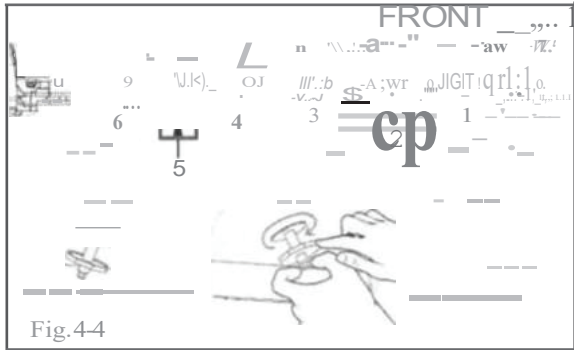

Fig.4-4
- (e) Insert a flag bolt & retainer into the bottom large rocker hole #2 -tail end first, rotating into position (Fig. 4-4).
- (f) While holding the end of the flag bolt, hand tighten the retainer so that it's tight and flush with the vehicle rocker (Fig. 4-4).
- (g) Install the second flag bolt at location #5 (Fig. 4-4).